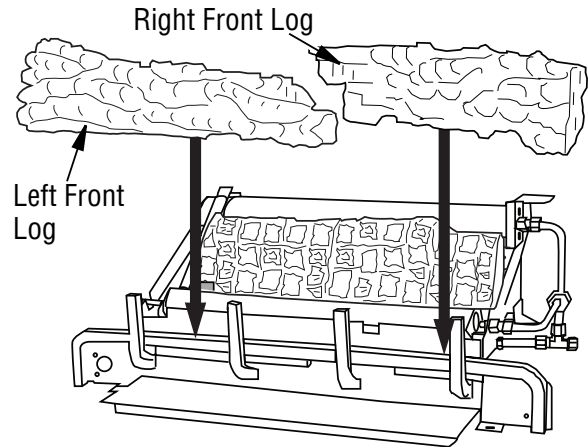

Figure 31 - Installing Left/Right Front Logs
3. Place front left and front right logs as shown in **Figure 31**.